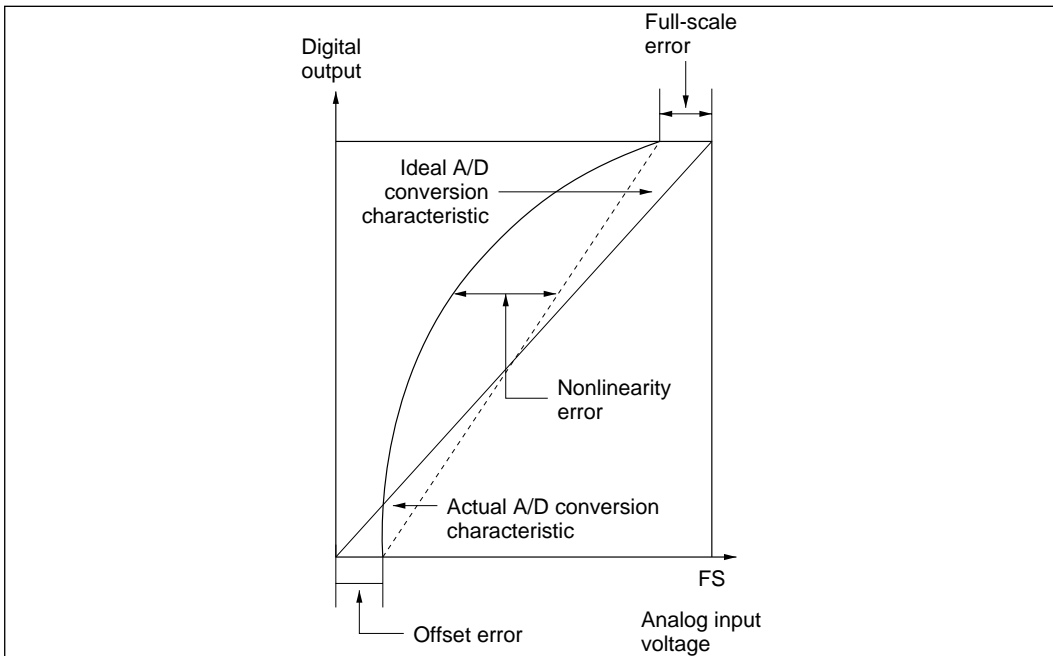

Figure 14-10 A/D Converter Accuracy Definitions (2)
- Offset error:Deviation from ideal A/D conversion characteristic of analog input voltage required to raise digital output from minimum voltage value 000000000 to 000000001 (figure 14-10)
- Full-scale error:.....Deviation from ideal A/D conversion characteristic of analog input voltage required to raise digital output from 111111110 to 111111111 (figure 14-10)